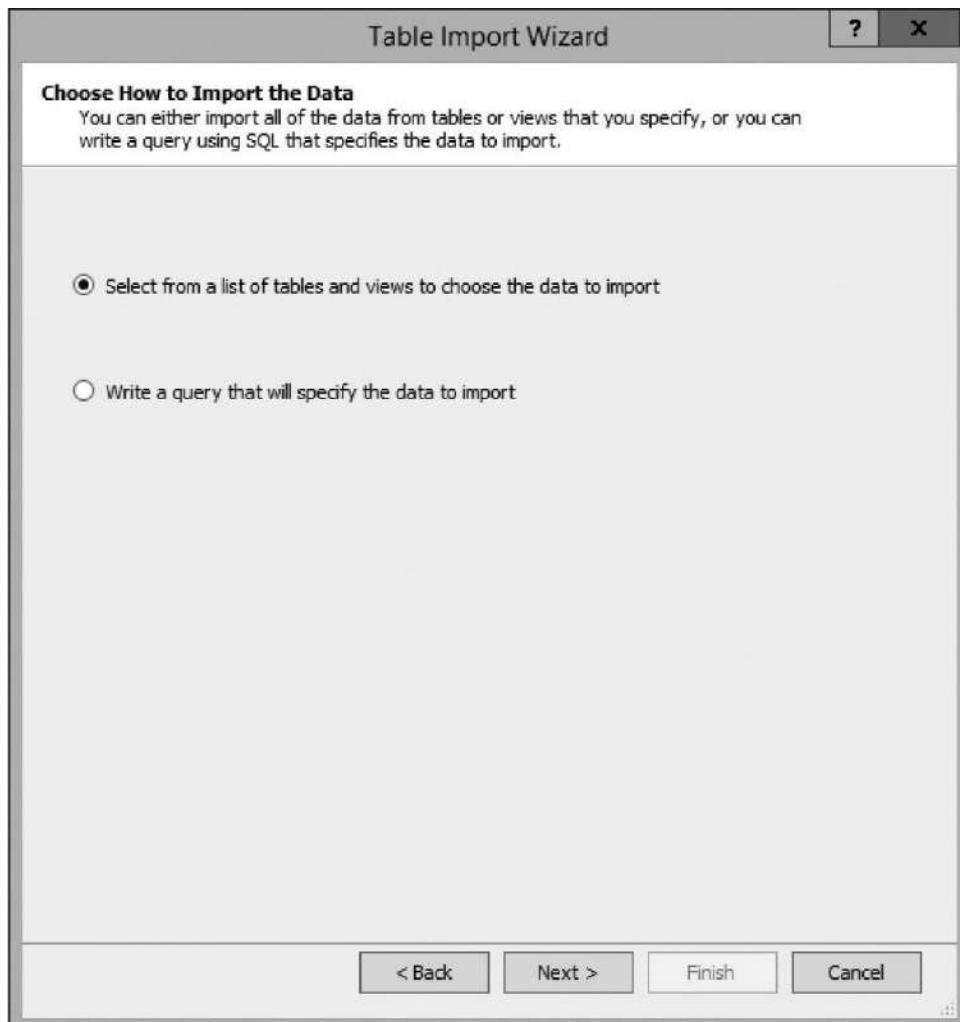

Figure 9-6 The Choose How to Import the Data page of the Table Import Wizard
1. Click Next. The Choose How to Import the Data page of the Table Import Wizard appears, as shown in Figure 9-6.